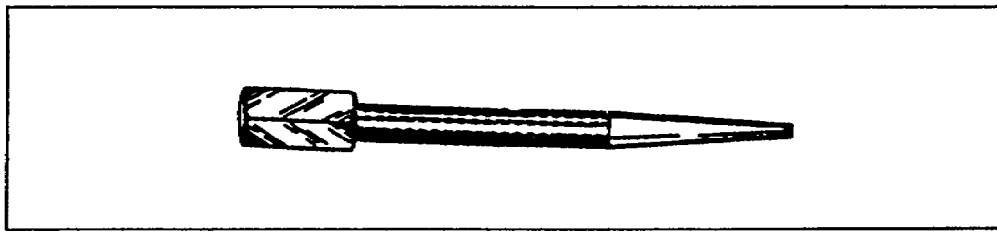

Figure 2-33. Nail set
(1) Driving Nails. When you use driving nails with a claw hammer, guide the nail with one hand and grasp the hammer with the other down near the end of the handle. Avoid holding the hammer near the neck. Use a wrist motion, tapping the nail lightly to start it, then use a few sharp blows to finish driving the nail. After the nail has been driven, it can be set below the surface with a nail set. This prevents hammer marks or *cat paws* from marring the surface of the wood. Nail sets are made in several sizes. Figure 2-33 shows one type of nail set.